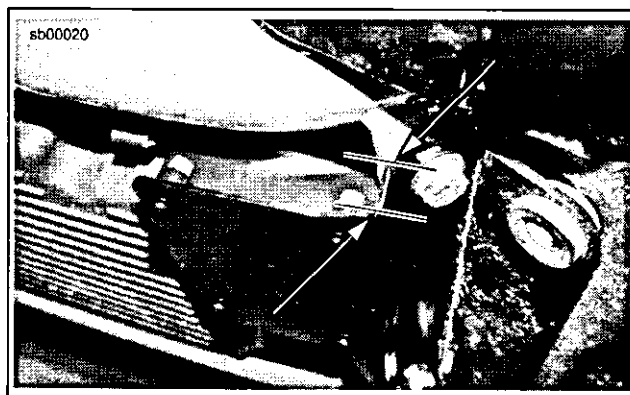

Figure 1. Mounting Bracket Measurement Points
2. See Figure 1. Use a straight edge and measure between the two points shown on mounting bracket. The old style mounting bracket will measure approximately 12.7 mm (1/2 in.) and must be replaced. The correct mounting bracket 70497-08A will measure approximately 22.2 mm (7/8 in.) and no replacement is required.